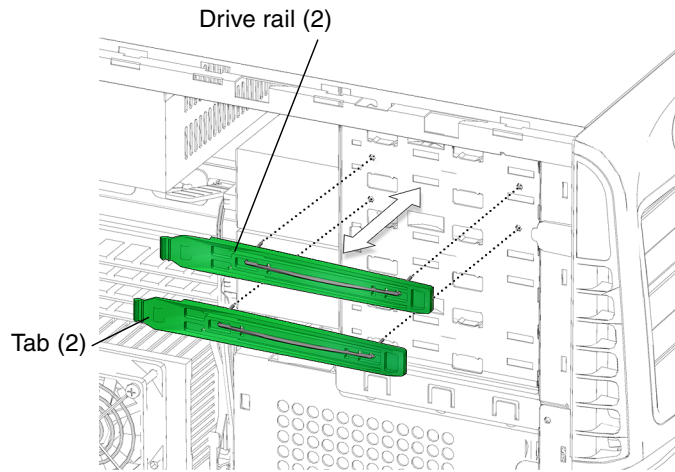

FIGURE 13-52 Removing the Drive Rails
3. Remove the drive rails (FIGURE 13-52).
2. Remove the spare drive rails from their storage position, if needed (FIGURE 13-52).